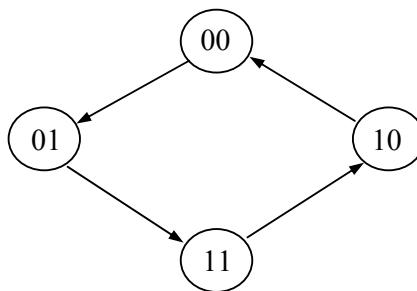

Fig. 2
- a) In the pre-lab using LogicWorks and then in the lab using hardware chips, design a 2-bit gray code counter using JK flip-flops. The required sequence is the binary equivalent of (0-1-3-2-0). A state diagram for this counter is given in Fig. 2.